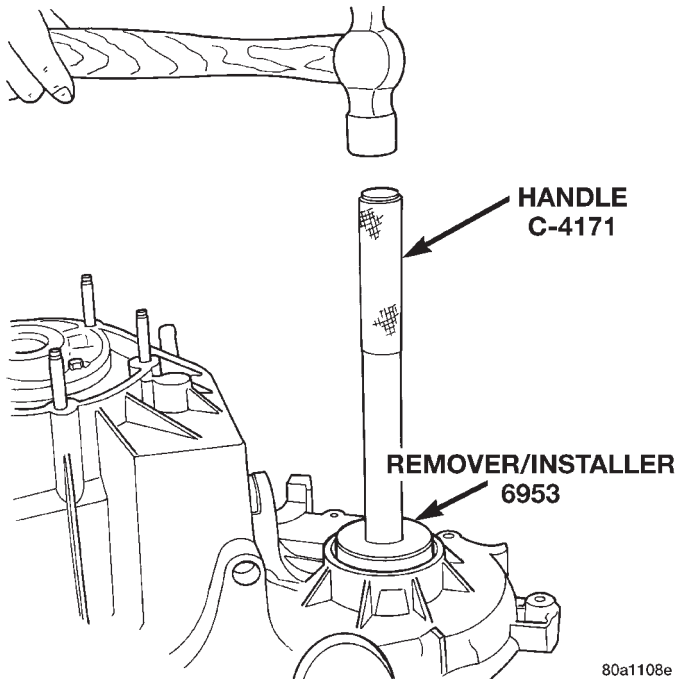

Fig. 10 Remove Output Shaft Front Bearing
- (2) Using tool 6953, remove bearing from front case (Fig. 10).
(3) Using tool 6953, install new bearing.
(4) Install snap-ring to hold bearing into case.
(5) Assemble transfer case.